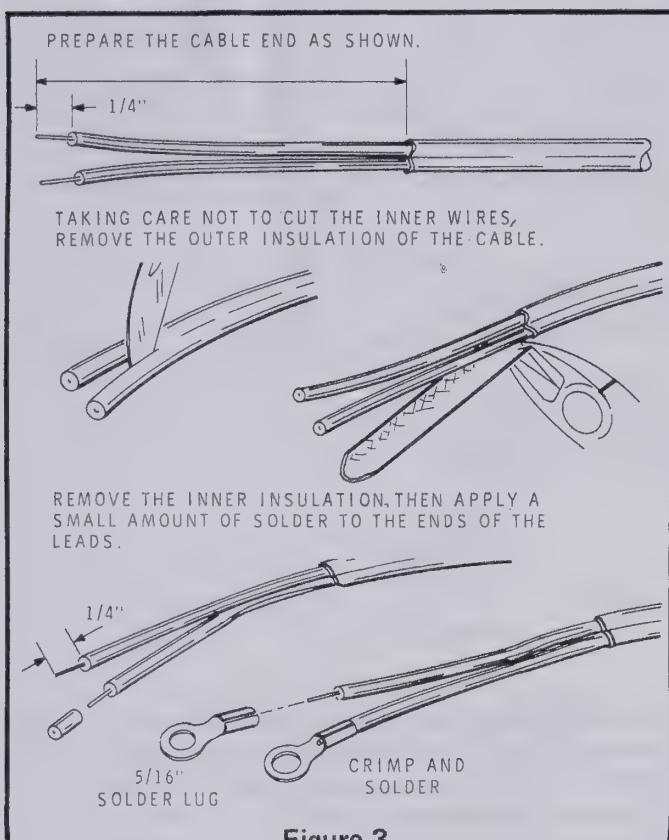

Figure 3
- () Refer to Figure 3 and prepare the end of the 2-wire cable.